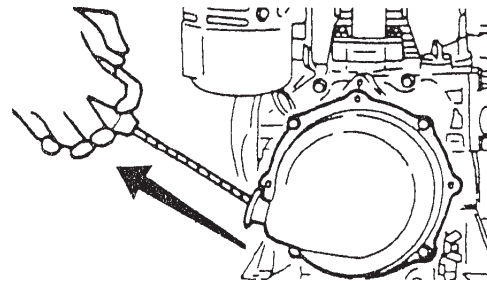

Figure 9. Starter Grip
4. Grasp the starter grip (Figure 9) and slowly pull it out until you feel the strongest resistance then return the starter grip to the initial position.
4. Slowly pull the starter grip (Figure 9) until strong resistance is felt and leave it in this position. This prevents rust from forming while the engine is not in use.